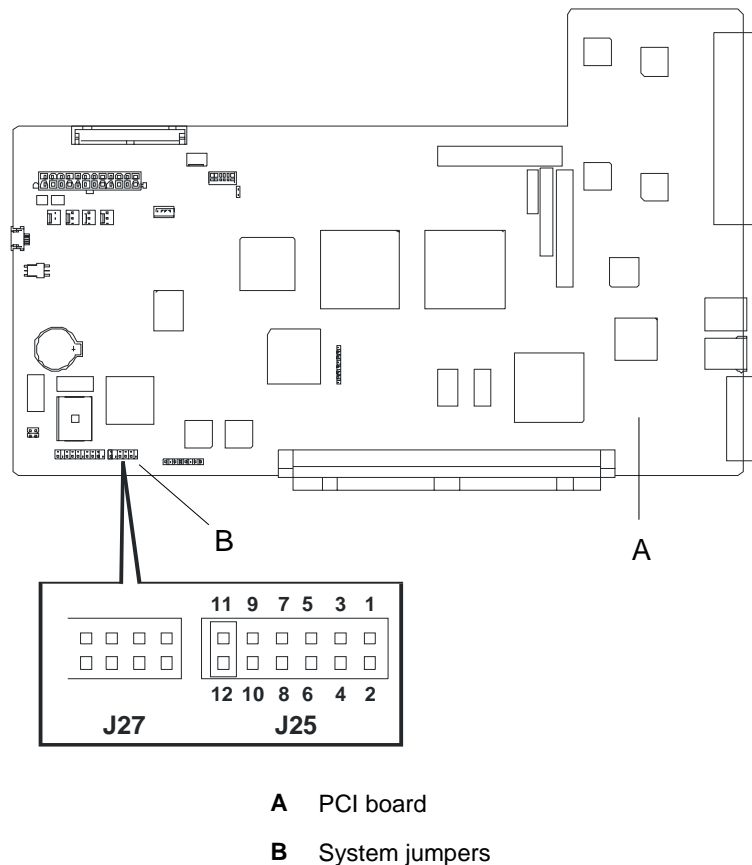

Figure 3-1. System Jumpers
Figure 3-1 shows the location of the system jumpers.
- 2.** Remove the spare jumper from pins 11 and 12 on system jumper block, see Figure 3-1.